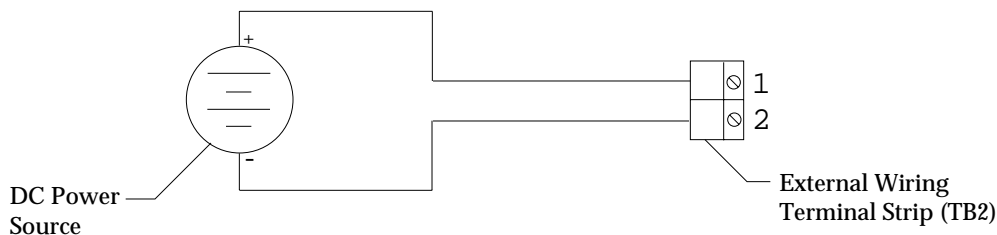

Figure 3-4: DC Power Wiring
3. Connect the DC line to the lower row of terminals on the external wiring terminal strip as shown in Figure 3-4.